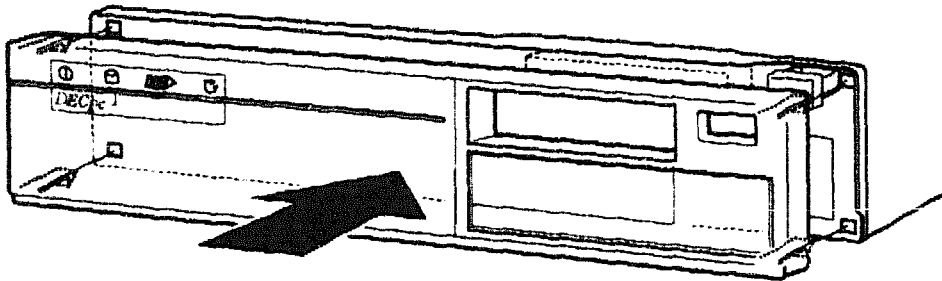

Figure 3-44 - Aligning the Front Cover
2. There is a small ribbon cable attached to the front cover. Put this ribbon cable through the slot in the front of the computer chassis and align the four clips on the Front Cover with the holes in the front of the computer's chassis (Figure 3-44).